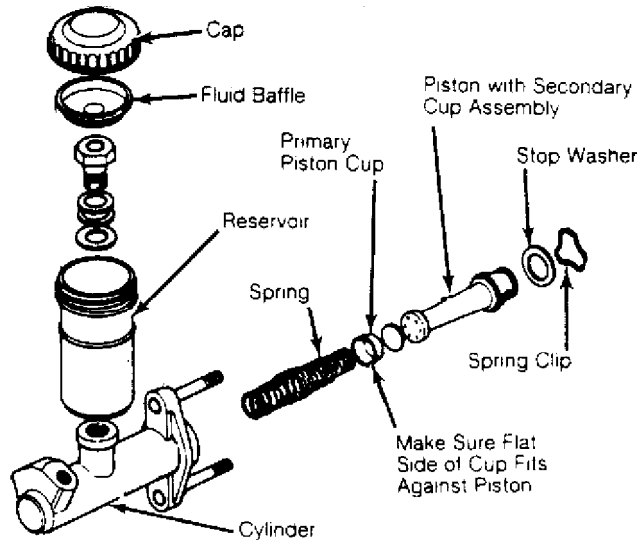

Fig. 3: Exploded View of Clutch Master Cylinder
2) Remove piston stop ring, washer and piston assembly. Separate piston, cups and return spring. See Fig. 3. Clean parts in denatured alcohol or brake fluid. Blow dry with compressed air.